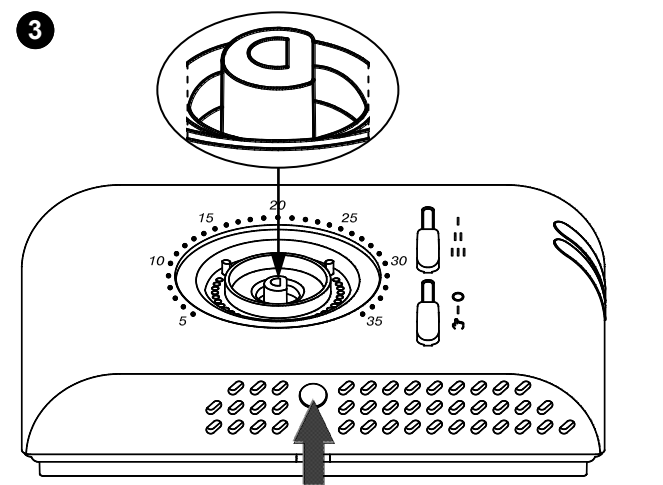

Fig. 4 - Abb. 4
- 3 Push the plastic tab in the lower slot using a screwdriver, slightly lifting the cover (Fig. 4).